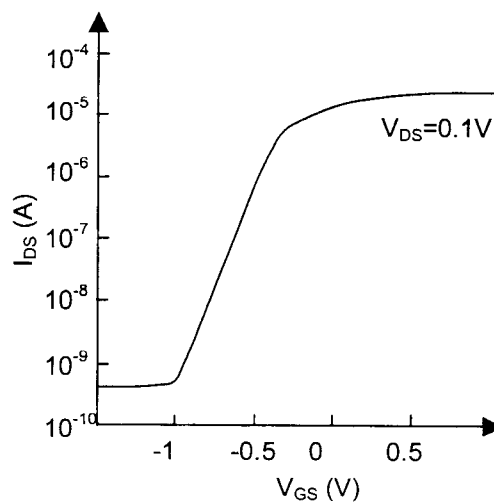

Figure 5.1: Logarithmic transfer characteristic of an FET
- d) Estimate the sub-threshold slope S of an FET for which the transfer characteristics at low drain voltage are given in Figure 5.1. [5]